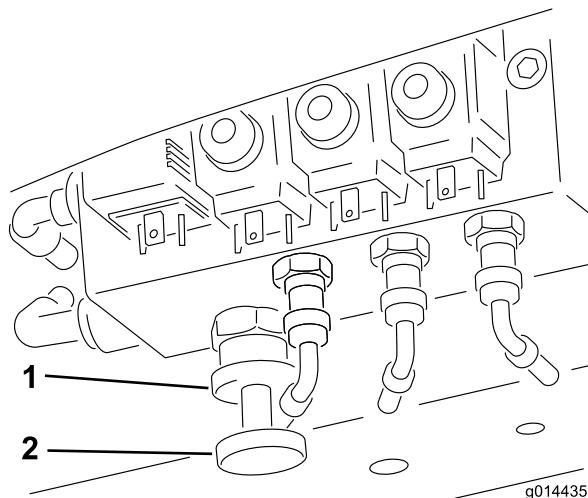

Figure 32
**To engage weight transfer:** The amount of weight transfer can be varied to suit operating conditions by rotating the weight transfer hand wheel (Figure 32) as follows:
1. Release the valve lock nut 1/2 turn counterclockwise and hold (Figure 32).
2. Rotate the valve hand wheel (Figure 32) counterclockwise to reduce weight transfer or clockwise to increase weight transfer.